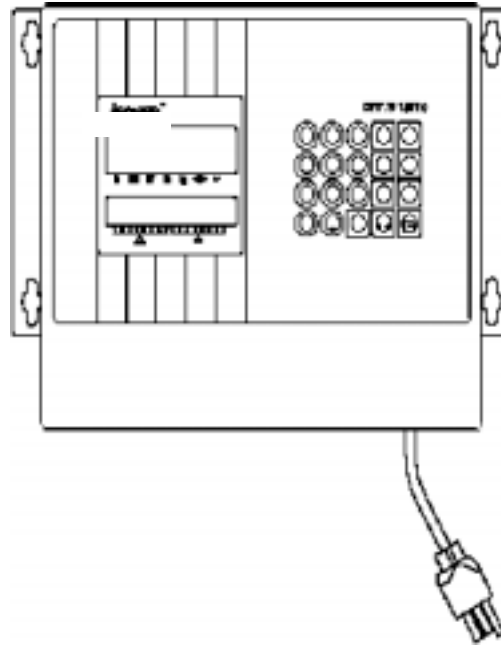

Figure 2-d: Wall Mount (Harsh Environment) Brackets
4. Using the dimensions given in Figure 2-d, prepare the mounting surface to accept the enclosure. The mounting surface and brackets must be able to support a total of 45 lb (20 kg).